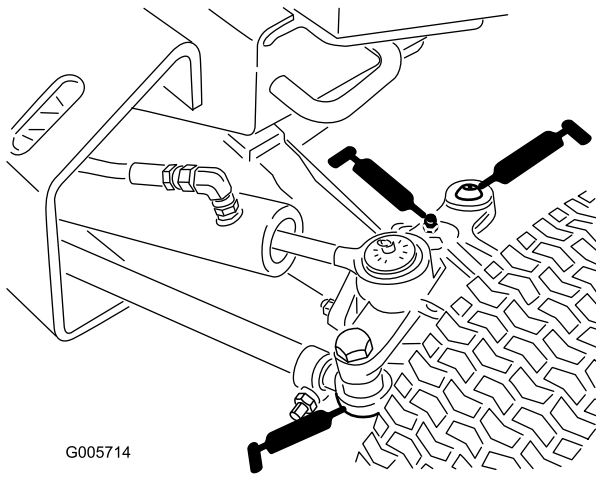

Figure 40
- Axle tie rod (2) (Figure 40)
- Axle pivot pin (Figure 40)
- Axle steering pivots (2) (Figure 40)
- Cylinder rod ends (4) (Figure 40)